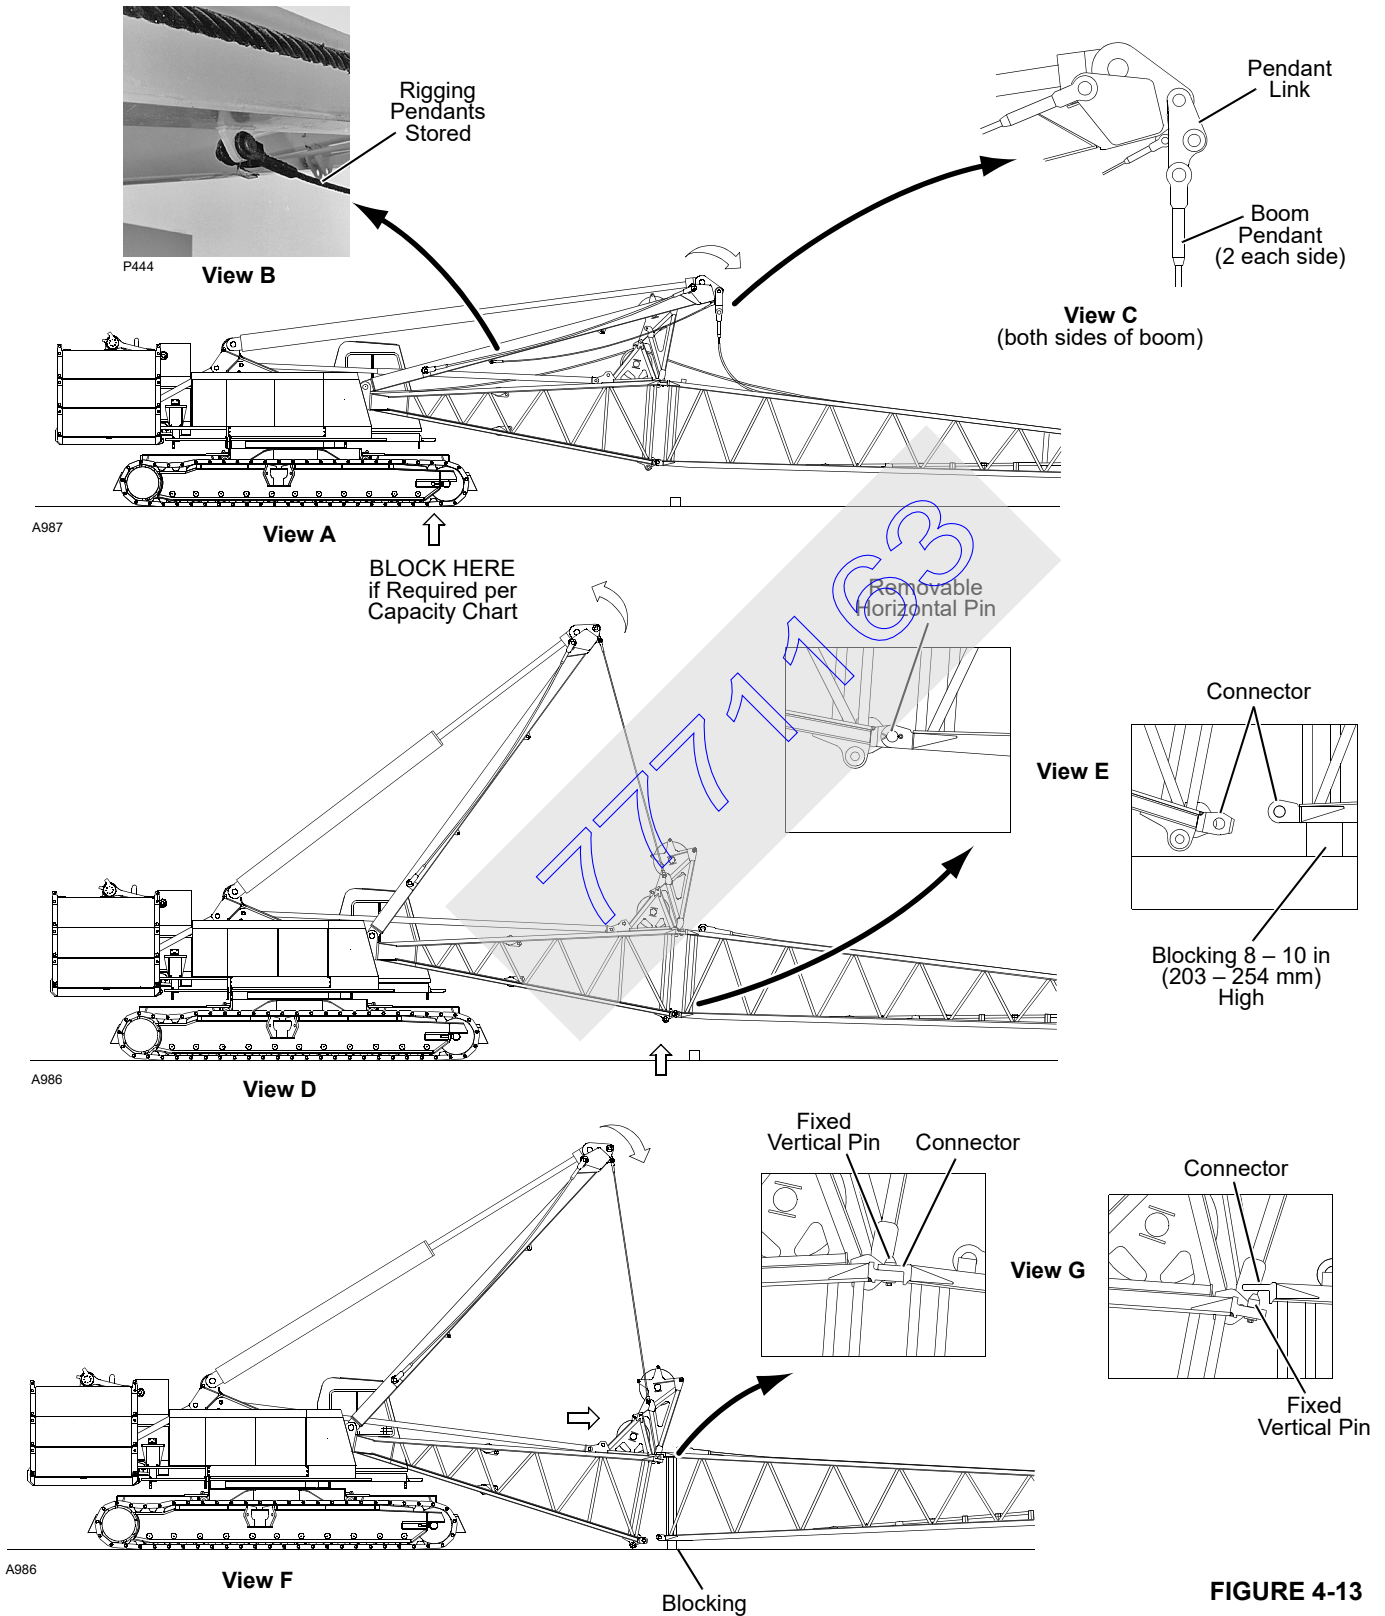

FIGURE 4-13
- b. If required per capacity chart, travel crawler front rollers or rear tumblers onto blocking (Figure 4-13, View A).
4. Continue to lower mast (boom down) until boom pendants are slack (Figure 4-13, View A) and pendant links on end of mast are accessible.
8. Disconnect boom pendants from pendant links (Figure 4-13, View C). Lay pendants on top of boom.
9. Unpin rigging pendants from storage position on mast (Figure 4-13, View B).
11. Slowly raise mast (boom up) until rigging pendants are taut and bottom connector pins at boom butt are loose (Figure 4-13, View D).
12. Remove bottom connector pins (Figure 4-13, View E).
13. Slowly boom down to lower boom onto blocking 8 – 10 in. (203 – 254 mm) high (Figure 4-13, Views E and F).
14. Continue to boom down to disengage fixed vertical pins in butt from connecting holes in adjacent boom section (Figure 4-13, View G).